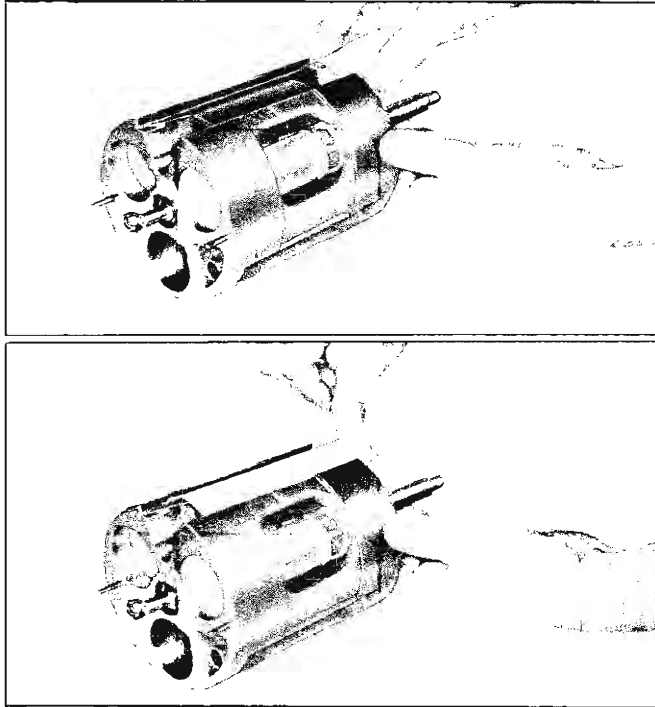

Fig. 47—Installing Suction Crossover Cover
12. Replace the suction crossover cover as shown in Figure 47. Compress the cover as shown to start it into the slot and then press it in until flush on both ends.